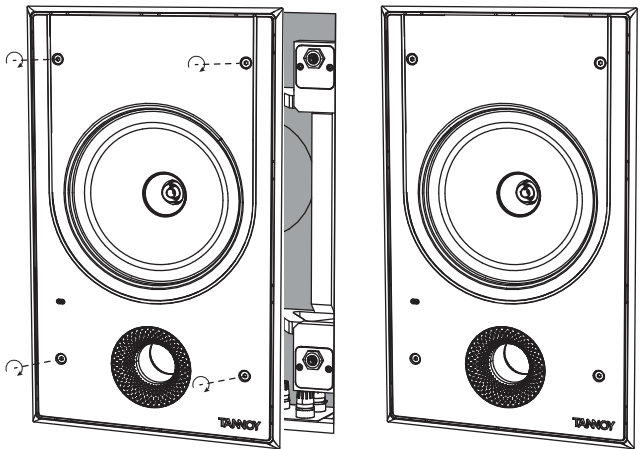

Fig. 2. Installation into the BACK CAN
2. Install the loudspeaker assembly into the back can, by first pressing in the four screws as far as they will go, and then hand-tightening (Fig. 2). Make sure that you do not trap the speaker wiring, or your fingers during the installation. **CAUTION:** Do not over tighten the screws - this is unnecessary to achieve a strong acoustic seal to the back can or wall, and risks damage.